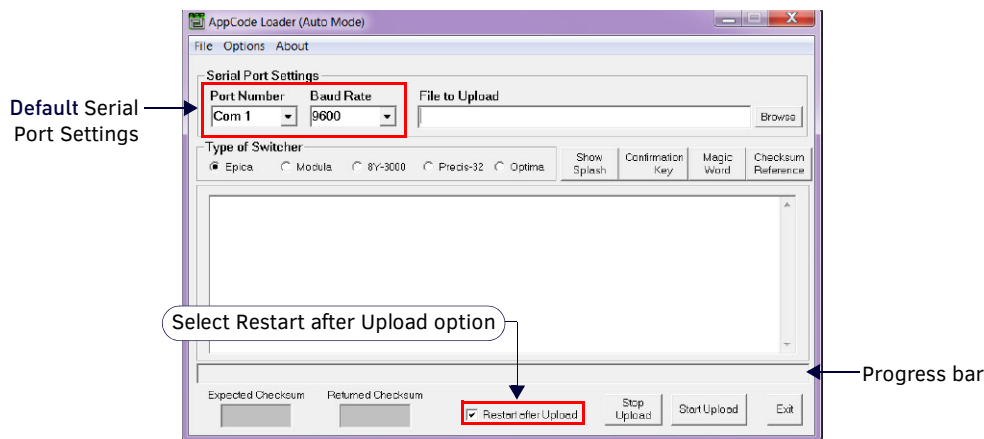

FIG. 144 AppCode Loader
8. Open the AppCodeLoader program (FIG. 144):